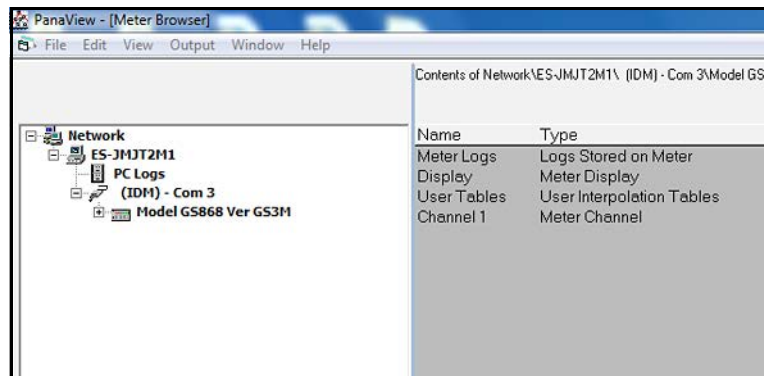

Figure 44: The Meter Branch
2. Fully expand the *network tree* and highlight the chosen meter (see Figure 44 below).